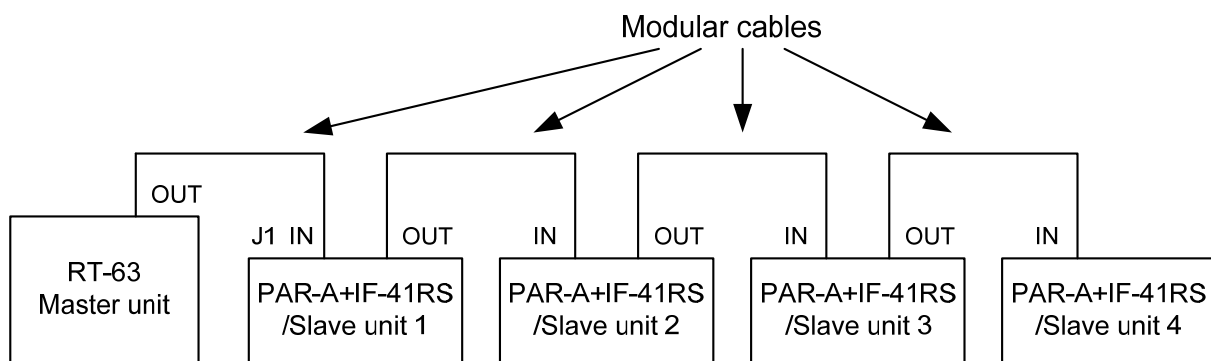

Fig.14 Computer Control Using RT-63
- When the RT-63 (our remote controller) is used as the master unit and the PAR-A units (with the IF-41RS units built in) are connected as shown in Fig.14, it is possible to control the following operations of a maximum of four PAR-A units:
- ① Turning on and off the MAIN OUTPUT key.
- ② Switching PRESET 1 key to PRESET 4 key (select PRESET 4 key with VARIABLE key.)